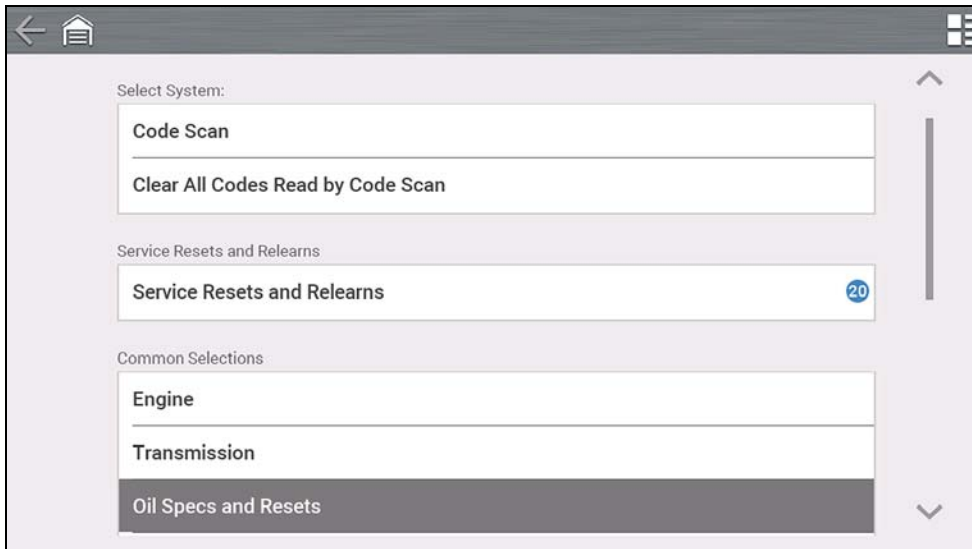

Figure 7-1
2. From within a current Scanner session - select **Oil Specs and Resets** from the System menu (*Figure 7-1*).